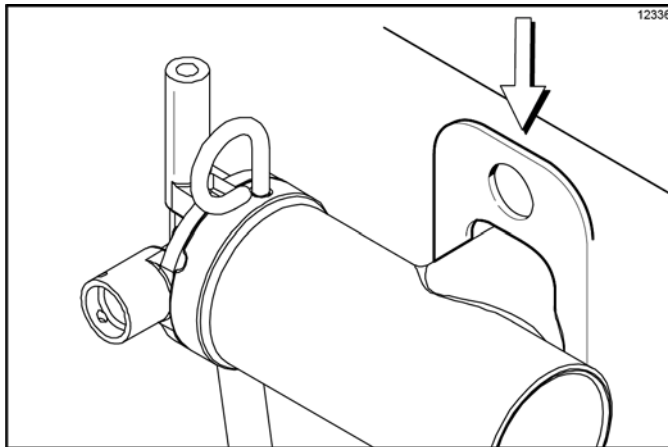

Figure 6-54
3. Install the pump assembly at the rear of the mix hopper. To position the pump on the drive hub, align the drive hole in the piston with the drive crank of the driveshaft. Secure the pump in place by slipping the pump clip over the collar of the pump, making sure the clip fits into the grooves in the collar. (See Figure 6-54.)